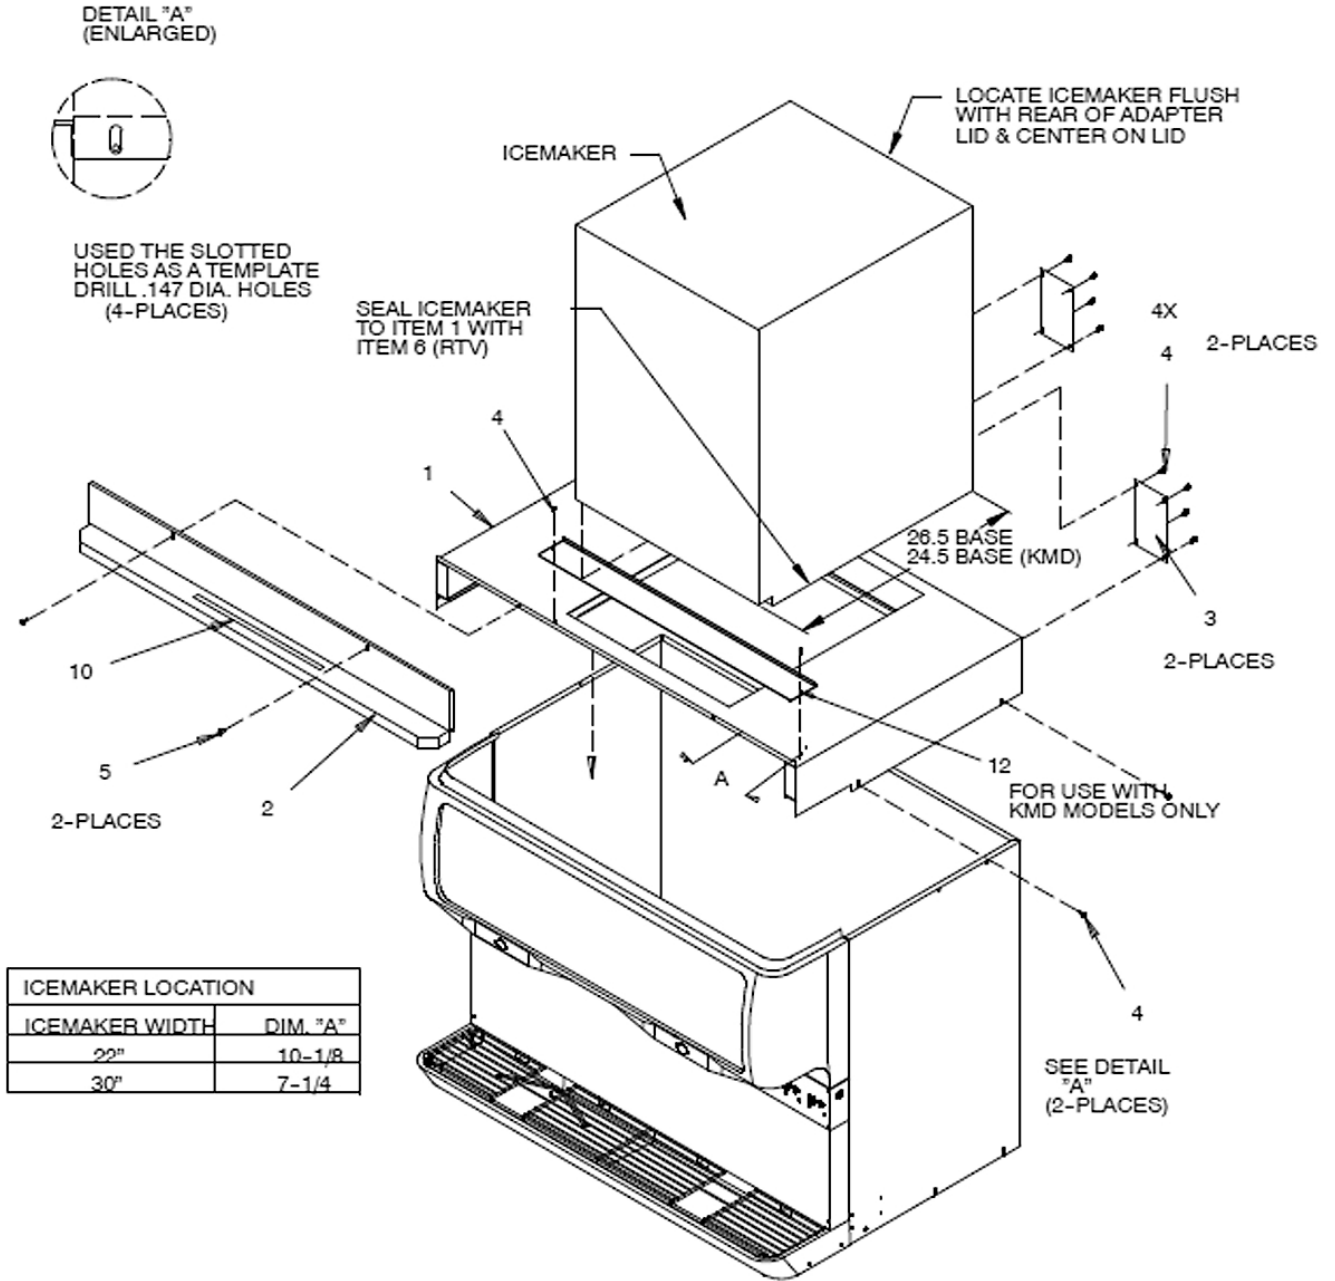
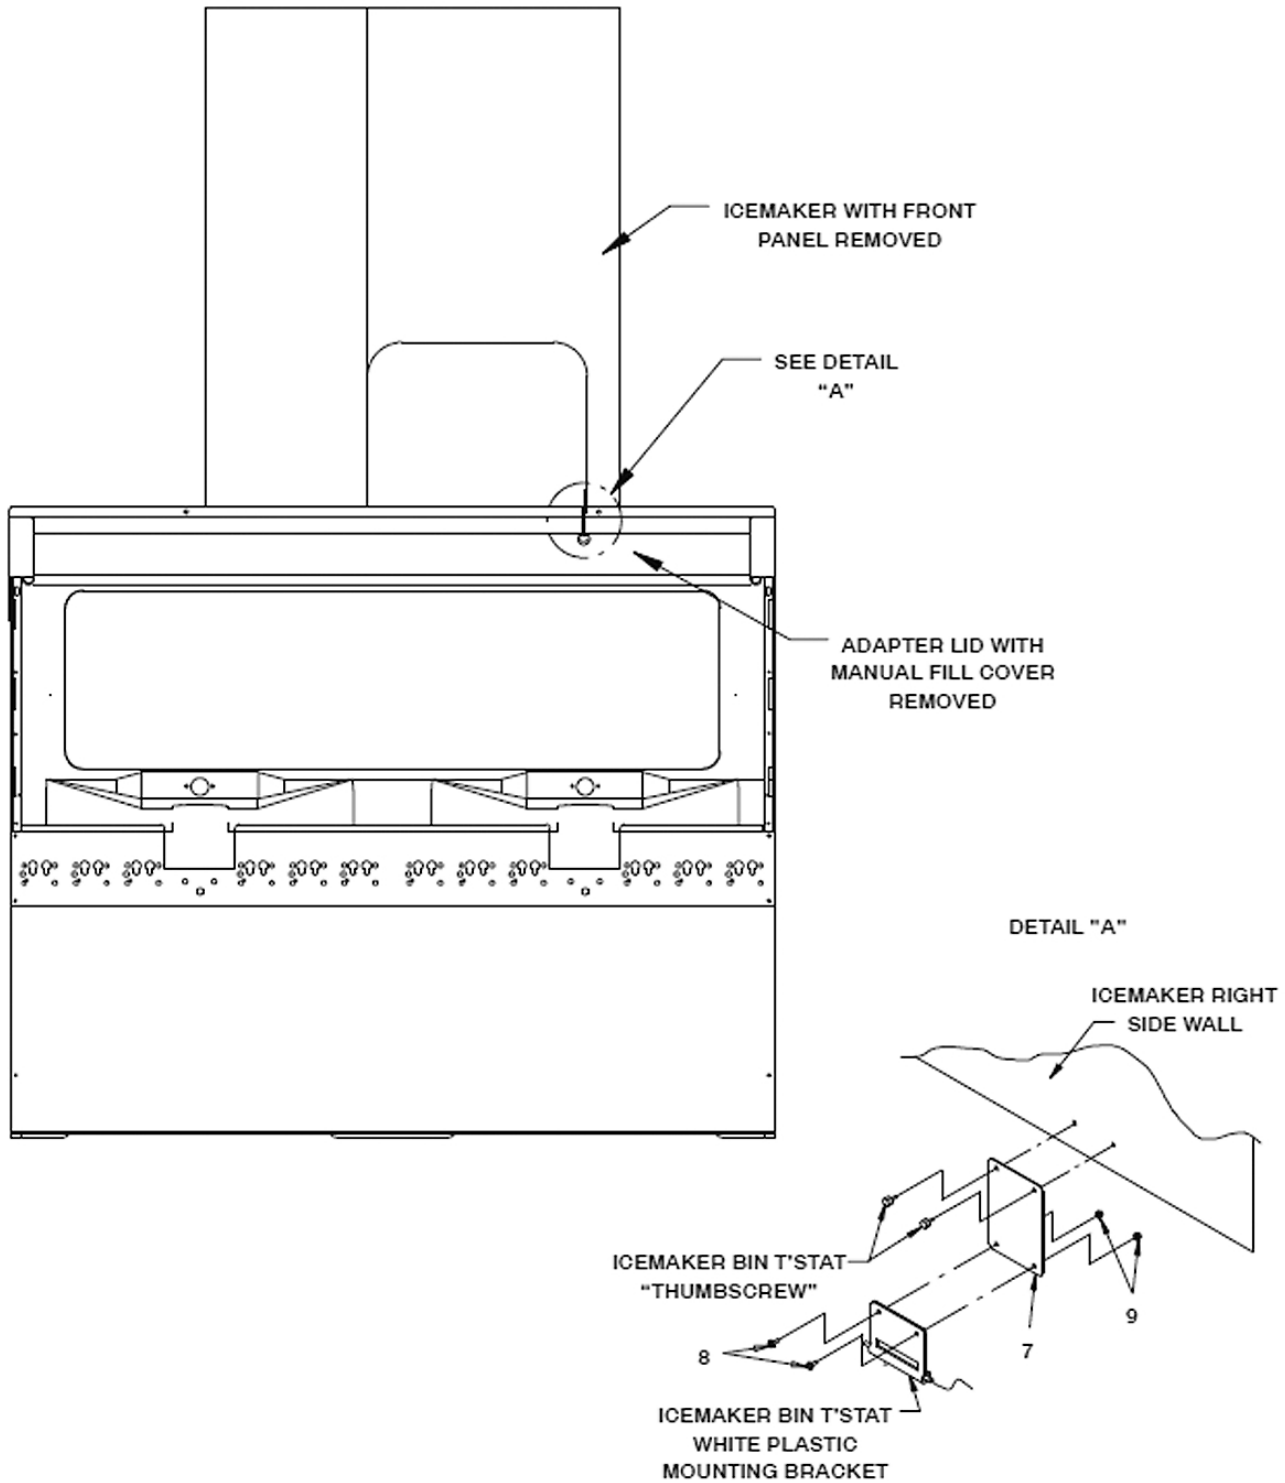

Figure 1.
Figure 2.
2. Position the ice maker adapter lid on the dispenser flush with the rear of the cabinet as shown in Figure 1.
- A. Locate the ice maker on the adapter lid as shown in Figure 1. Run a bead of RTV on the lid inside the perimeter of the ice maker base outline so that the ice maker sets on the RTV.
4. Using the slotted holes in the adapter lid as a template, drill four (4) 0.147" diameter holes (No. 26 drill) into the dispenser cabinet (see Detail A of Figure 1). Use extreme care not to drill into the ice storage bin. Secure the lid to the dispenser with four (4) No. 10 sheet metal screws.
5. Install the two (2) ice maker mounting brackets as shown in Figure 1. Using the brackets as templates, drill 0.147" inch diameter holes into the ice maker cabinet and the adapter lid. **Use extreme caution not to drill into any ice maker components (condenser, tubing, etc.).** Secure brackets to the ice maker cabinet with the No. 10 sheet metal screws provided in the kit.
6. Follow the ice makers Manufacturer's instructions to complete installation of the ice maker. For installation of KMD 700/900 series ice maker item 12 will be used to cover gap in front of ice maker and front lip of adapter. Install item 12 with 2 sheet metal screws as shown.
7. **IMPORTANT: The bin thermostat bracket (item 7) must be installed (see Figure 2) in order to prevent overfilling the ice storage bin.**
- B. Locate the bin thermostat on the lower-right side wall of the ice drop area and remove the two (2) thumbscrews that hold the bin thermostat in place.
- C. Mount the bin thermostat to the bracket (item 7) provided with the kit as shown in Figure 2.
8. Install the caution label (item 10) on the manual fill cover (item 2) and secure the cover to the adapter lid with the two (2) No. 8-32 thumbscrews.